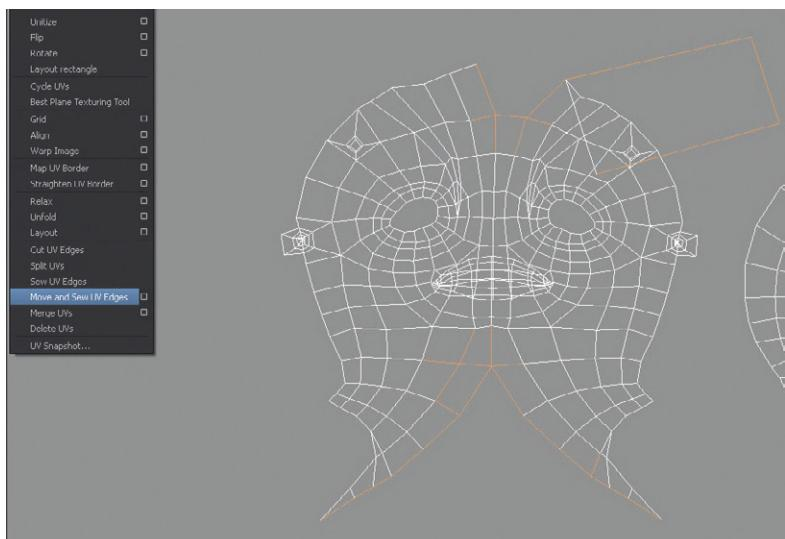

FIG 5.36 Cleaning up the results of the cylindrical projection.
Step 11: Clean up the new projection. Watch for strange flaps that this projection may cause. Additionally watch for areas like down the front of the neck that may end up split. **Figure 5.36** shows a selection of edges that are all to be sewn together (Polygons > Move and Sew UV Edges) to create a unified UV shell.